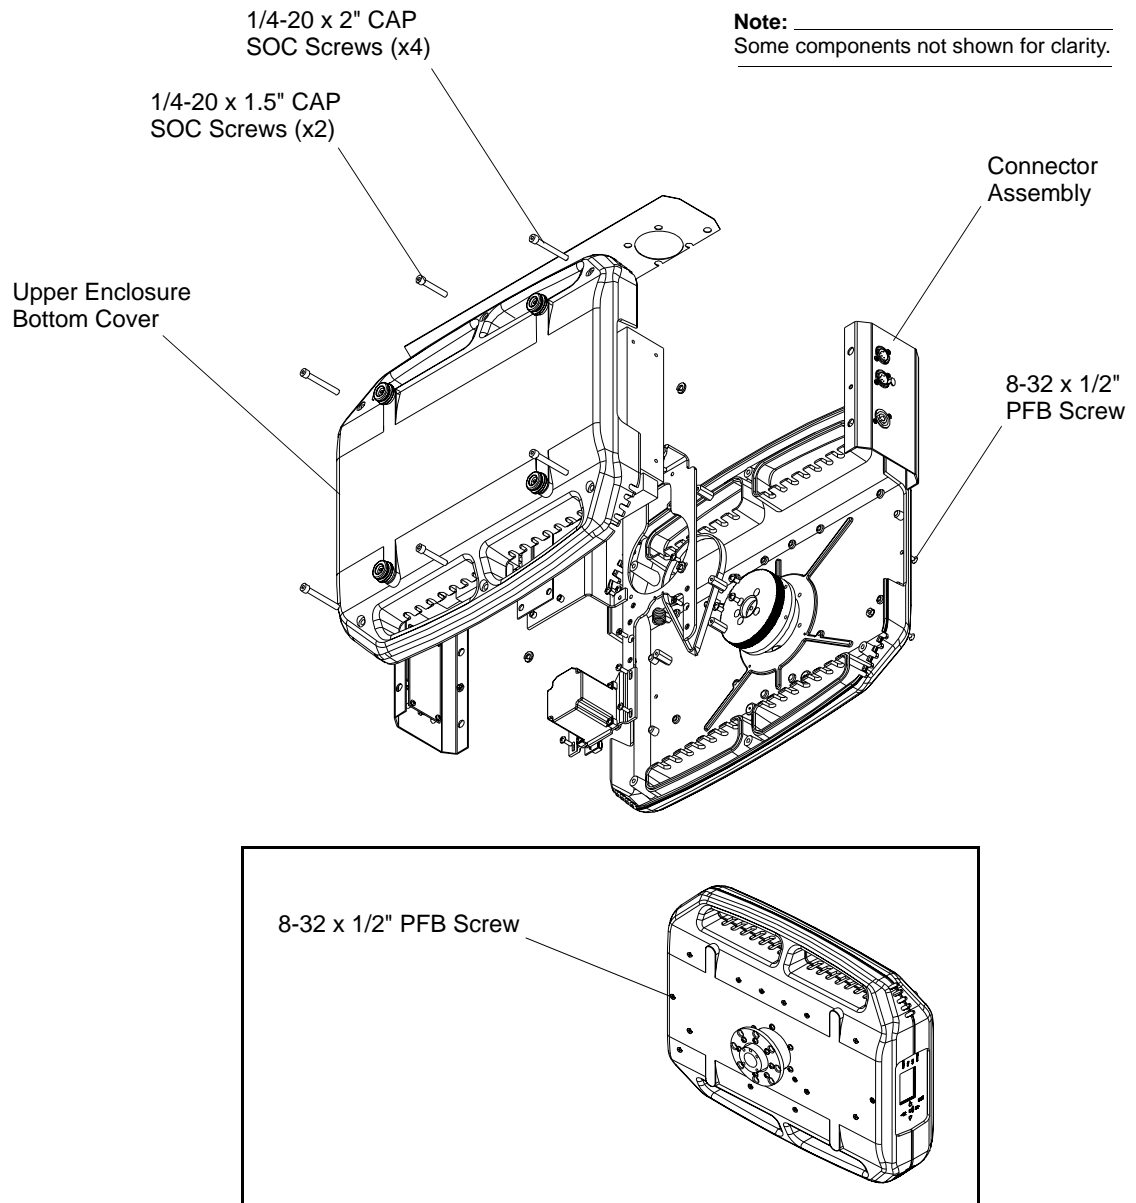

Figure 2-42: VLX Wash Upper Enclosure Connector Assembly
- Step 3. Using 3/16" hex wrench and as indicated in Figure 2-42, remove four 1/4-20 x 2" CAP SOC screws and two 1/4-20 x 1.5" CAP SOC screws and remove base cover.